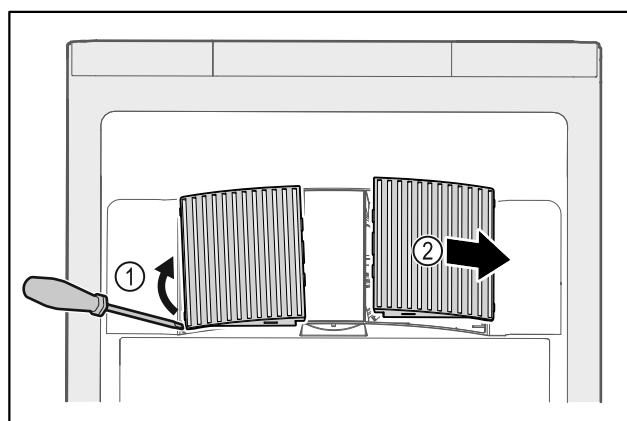

Fig. 199
- ▶ Carefully lever out fan covers from the side Fig. 199 (1) and remove towards the front Fig. 199 (2).